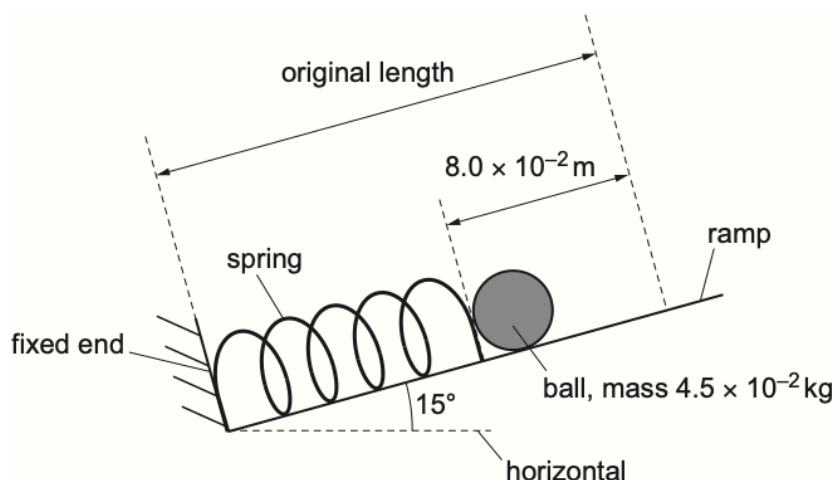

Fig. 4.1 (not to scale)
- 9 A pinball machine uses a spring to launch a small metal ball of mass  $4.5 \times 10^{-2} \text{ kg}$  up a ramp. The spring is compressed by  $8.0 \times 10^{-2} \text{ m}$  and held in equilibrium, as shown in Fig. 4.1.